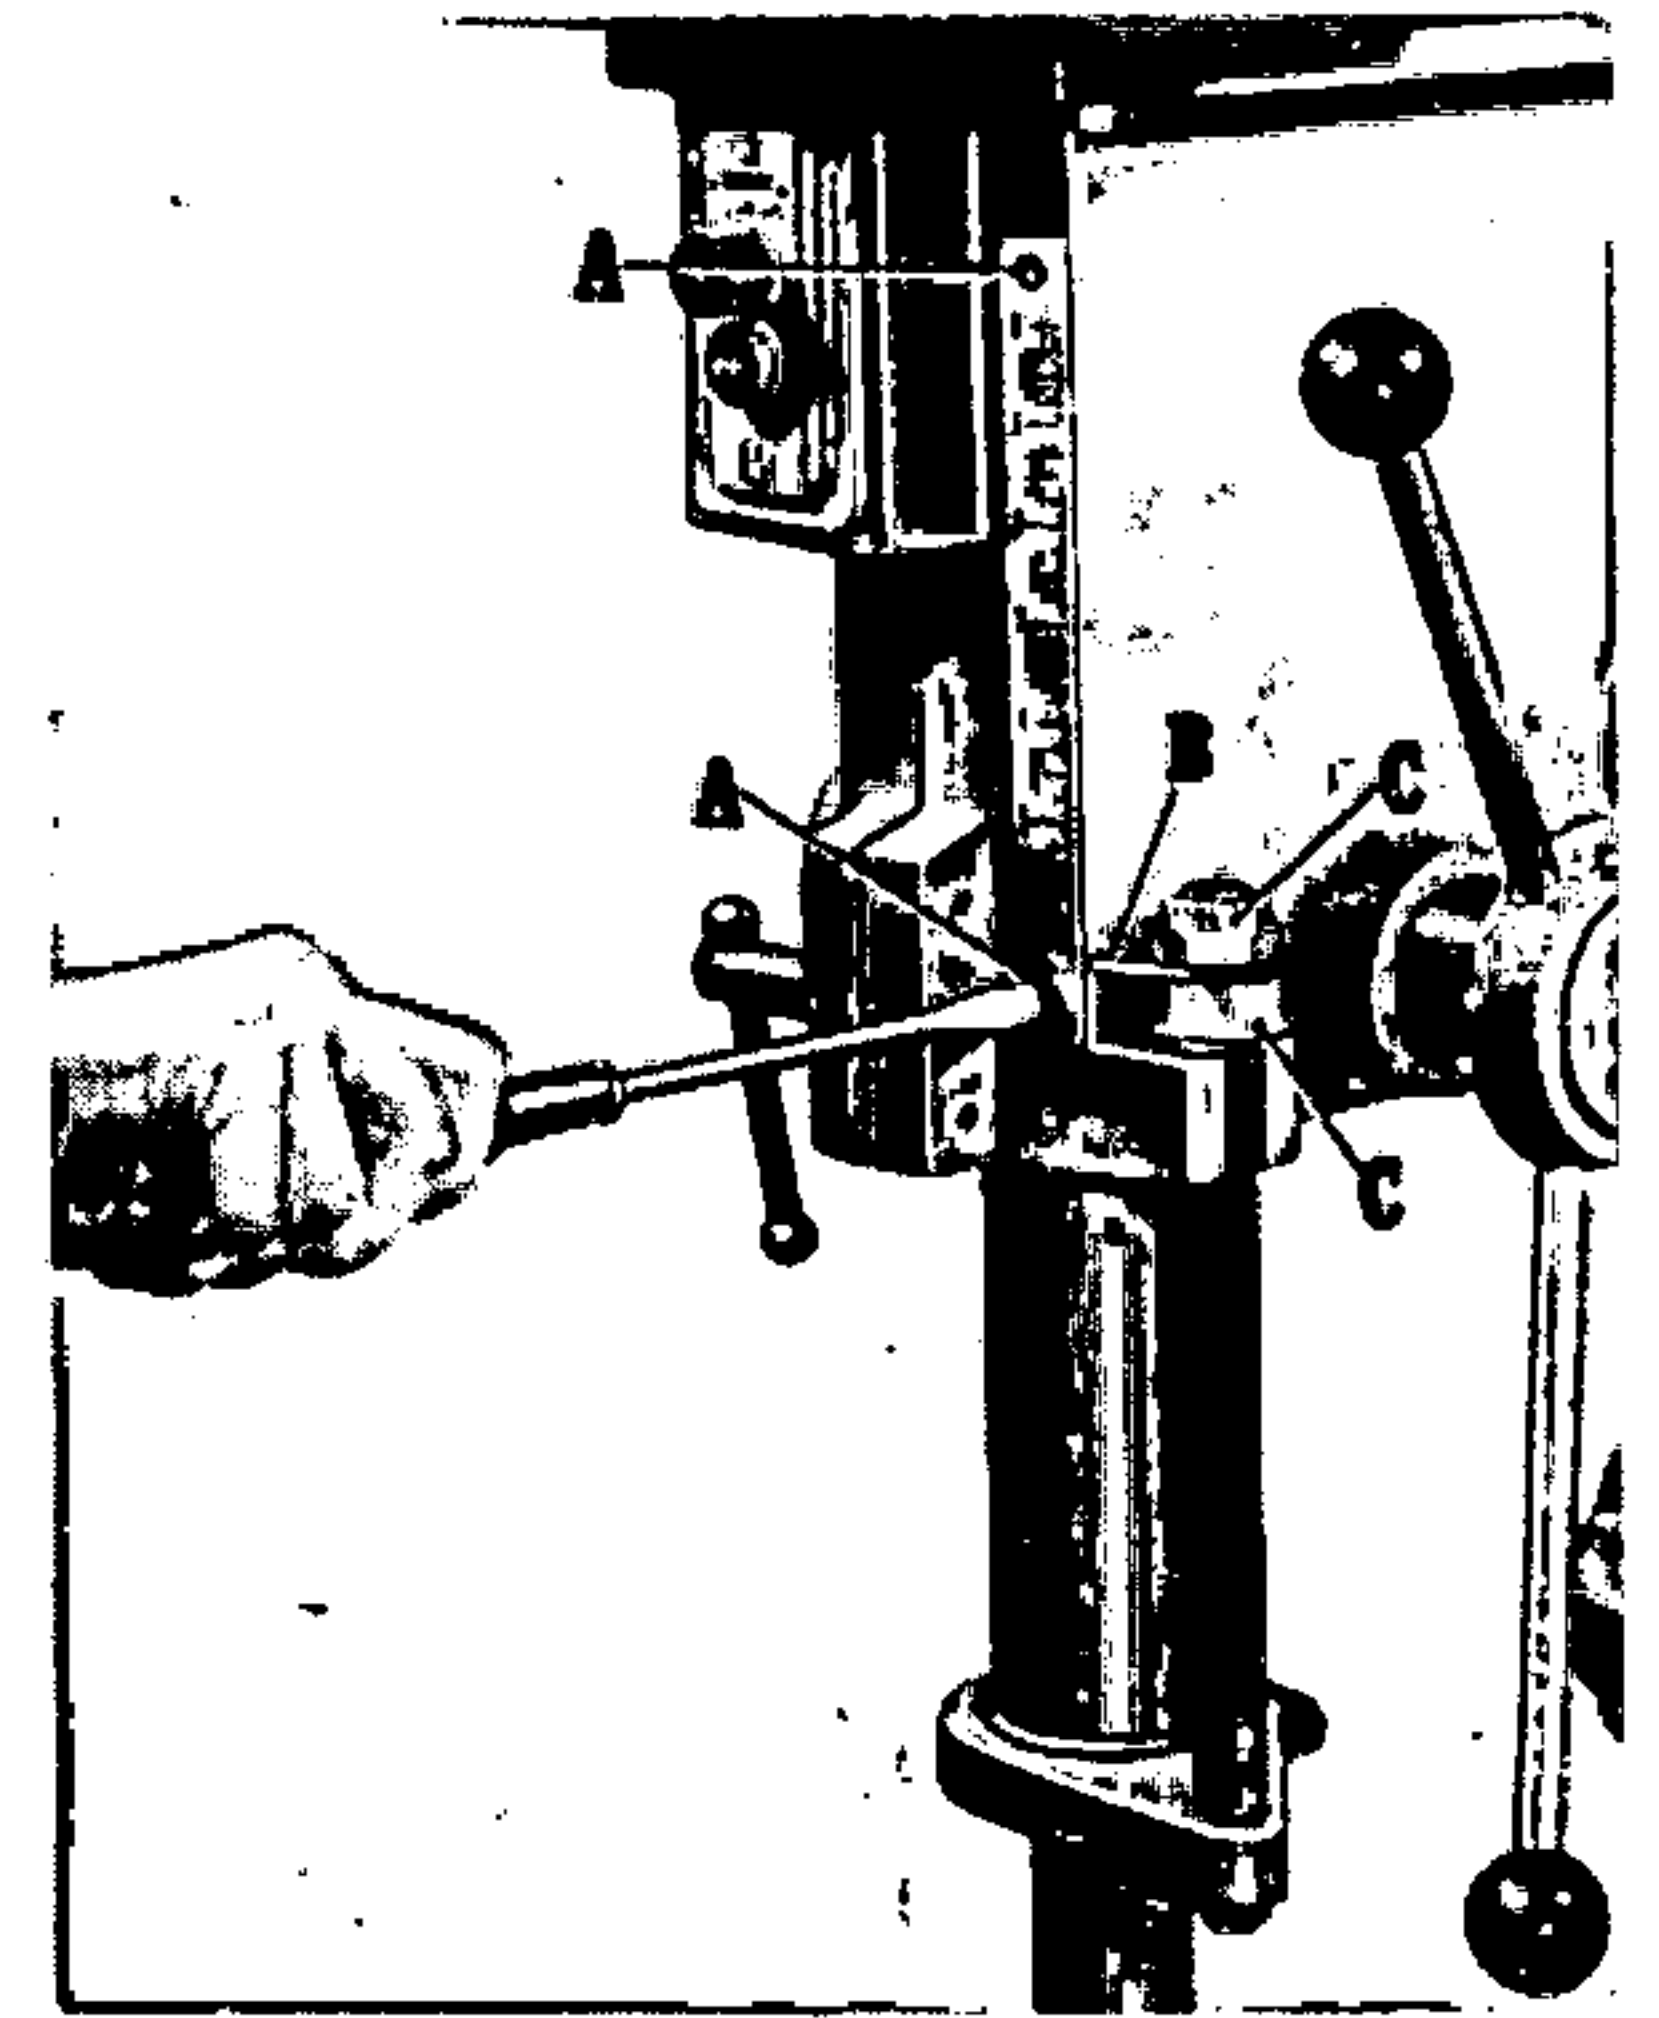

Figure 7
1. When setting drill depth, position pointer (B, fig. 7) at depth required and tighten nuts (C).
2. Loosen screws (A) and with quill at maximum travel, position scale so pointer is at $6\frac{3}{4}$ ", then tighten screws.